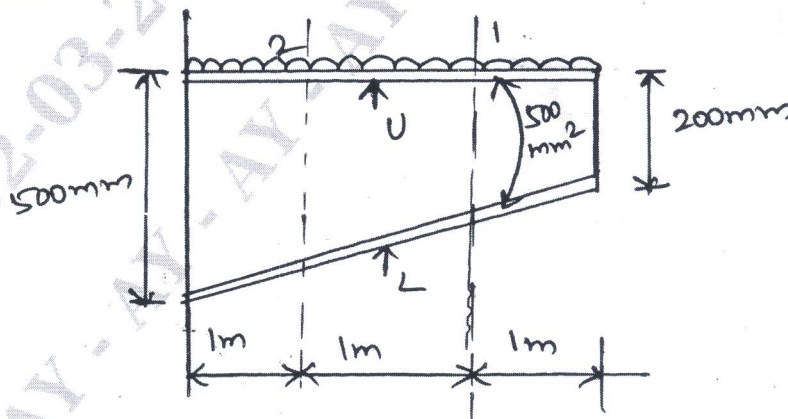

Fig Q7(a)
- 7 a. A wing spar has the dimensions as shown in Fig Q7(a) and carries a uniformly distributed load of 15kN/m along its complete length. Each flange has a cross section area of 500mm² with the top flange being horizontal. If the flanges are assumed to resist all direct loads while the spar web is effective only in shear, determine the flange loads and the shear flows in the web at section 1 and 2 from free end.